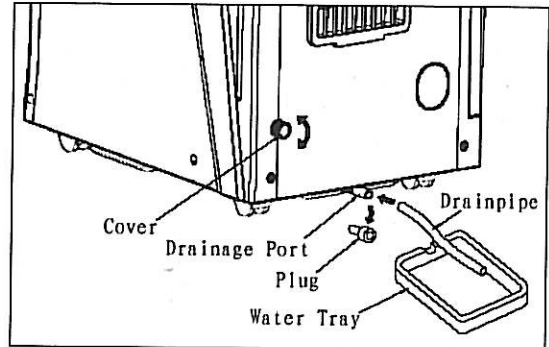

Fig. 10
- Place a water tray or pan under the hose. (Fig. 10)